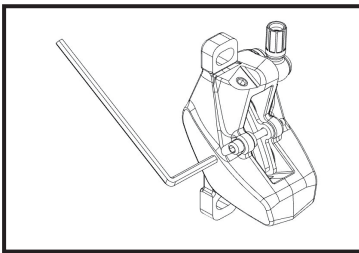

Fig 3
- Using a 3 mm hex wrench, remove the pad retaining clip. **(Fig 3)**